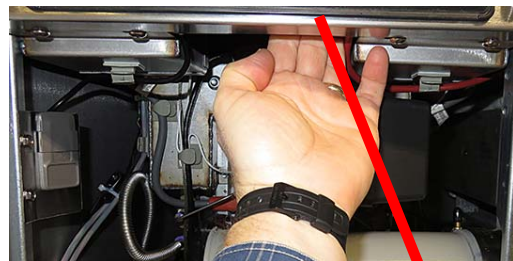
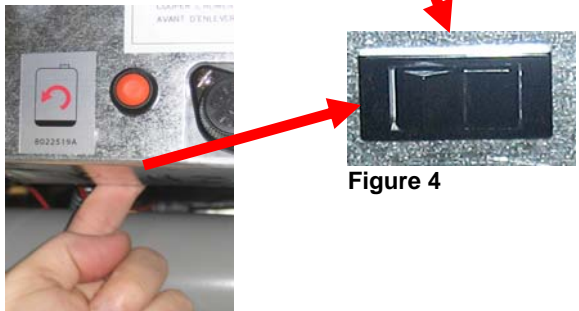

Figure 5
Figure 6
25. Cycle the fryer control power using the reset switch or unplug the fryer. In some models, this is located under the USB slot (see Figure 3). In some gas models, the momentary rocker switch (see Figure 4) is located under the far-left control box (see Figure 5). In some electric models, the momentary rocker switch is located directly behind the JIB reset switch (see Figure 6). **ENSURE THE SWITCH IS PRESSED AND HELD FOR 60 SECONDS.**
21. Cycle the fryer control power using the reset switch. In some models, this is located under the USB slot (see Figure 3). In some gas models, the momentary rocker switch (see Figure 4) is located under the far-left control box (see Figure 5). In some electric models, the momentary rocker switch is located directly behind the JIB reset switch (see Figure 6). **ENSURE THE SWITCH IS PRESSED AND HELD FOR 60 SECONDS.**